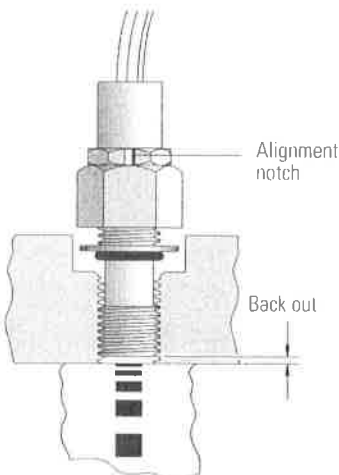

Figure 21
5. Turn the speed sensor body out one quarter turn (CCW) plus the additional amount (CCW) needed to make the alignment notches perpendicular to the motor shaft centerline ($90^\circ \pm 5$ degrees from the motor shaft centerline — Figure 21 and 22).